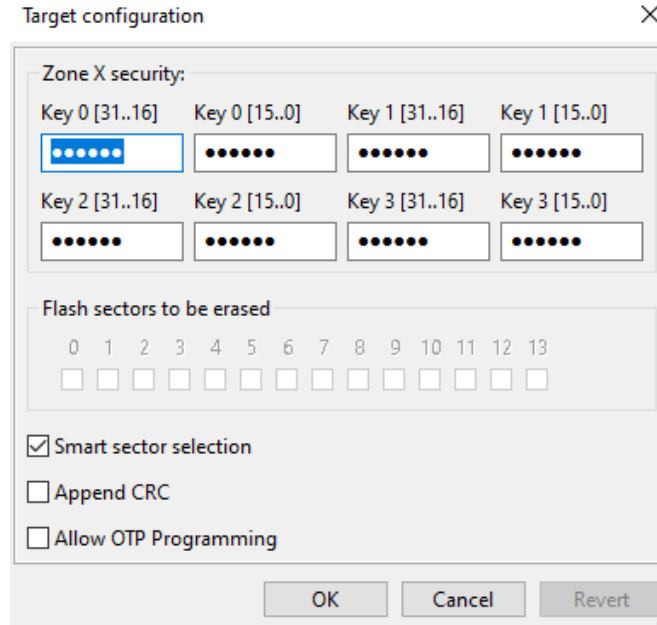

Figure 2: Target Configuration Settings
- (d) Verify the Target Configuration under the ‘Configure...’ button is set to the default, as shown in figure 2. Note the hidden password fields should be defaulted to ‘0xFFFF’ and ‘Smart Sector Selection’ should be checked.